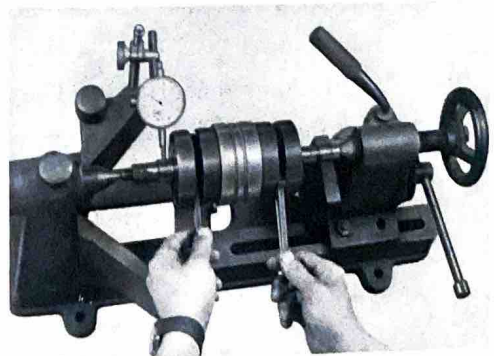

Fig. 4-17-19
- 1) Place the crankshaft ass'y on V blocks or other suitable centering device and check for alignment. (Fig. 4-17-19)